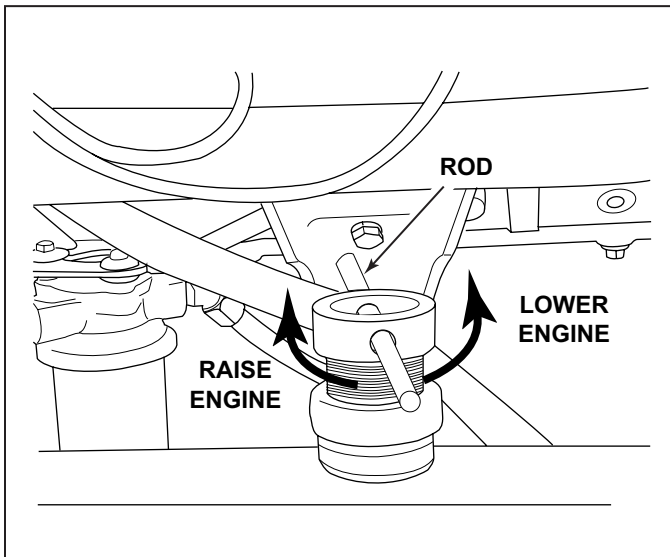

Figure 10-25 Engine Mount Adjustment
- **UP or DOWN OFFSET ADJUSTMENT:** Loosen the lag bolt 1/4 turn. Use the mount adjusting tool or a 3/8 in. (0.95 cm) or 1/2 (1.27 cm) diameter rod through both sides of the adjusting sleeve to turn (Figure 10-25). Turn the adjusting sleeve in the direction required to raise or lower the engine. After the adjustment is complete, tighten the lag bolt.
- **UP or DOWN ANGULAR ADJUSTMENT:** Loosen the lag bolt 1/4 turn. Use the mount adjusting tool or a 3/8 in. (0.95 cm) or 1/2" (1.27 cm) diameter rod through both sides of the adjusting sleeve to turn (Figure 10-25). Turn the adjusting sleeve in the direction required to raise or lower the engine. After the adjustment is complete, tighten the lag bolt.